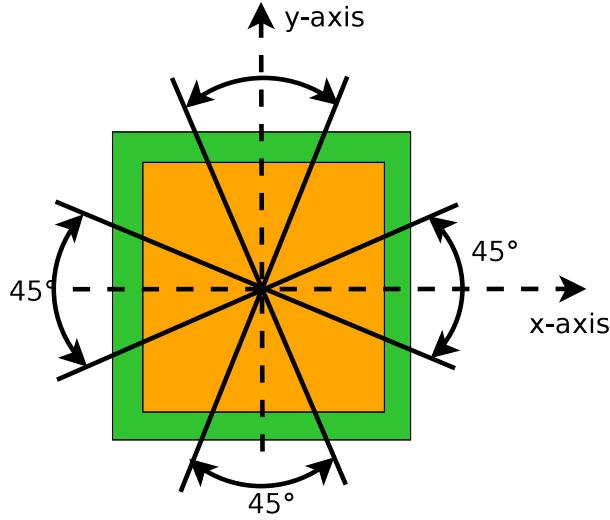

Figure 3.6: Example of rotational alignment (numberOfRotations=4 and rotationalTolerance=22.5 deg)
- `rotationTolerance`: the tolerated angle difference with respect to each of the allowed docking rotations (see figure 3.6).
- `numberOfRotations`: specifies how many different docking rotations are allowed in a full 360 degree rotation around the `Connector`'s `z`-axis. For example, modular robots' connectors are often 1-, 2- or 4-way dockable depending on mechanical and electrical interfaces. As illustrated in figure 3.6, if `numberOfRotations` is 4 then there will be 4 different docking positions (one every 90 degrees). If you don't wish to check the rotational alignment criterion this field should be set to zero.